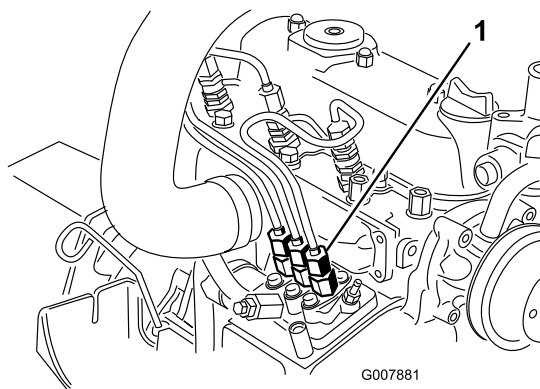

Figure 50
1. Place a rag under the pipe connection coming from the injection pump to the No. 1 injector nozzle as illustrated in Figure 50.